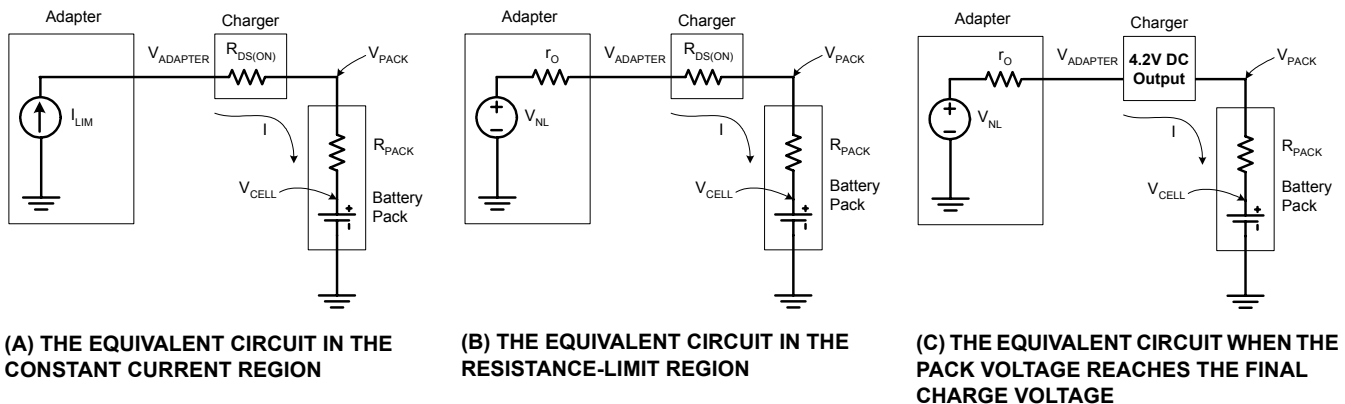

FIGURE 25. THE EQUIVALENT CIRCUIT OF THE CHARGING SYSTEM WORKING WITH CURRENT LIMITED ADAPTERS
When charging in the constant-current region, the pass element in the charger is fully turned on. The charger is equivalent to the on-resistance of the internal P-channel MOSFET. The entire charging system is equivalent to the circuit shown in Figure 25 (A). The charge current is the constant current limit  $I_{LIM}$ , and the adapter output voltage can be easily found out as,
When the above condition is true, the charger enters the constant-voltage mode simultaneously as the adapter exits the current-limit mode. The equivalent charging system is shown in Figure 25 (C). Since the charge current drops at a higher rate in the constant-voltage mode than the increase rate of the adapter voltage, the power dissipation decreases as the charge current decreases. Therefore, the worst case thermal dissipation occurs in the constant-current charge mode. Figure 26 (A) shows the I-V curves of the adapter output, the battery pack voltage and the cell voltage during the charge. The 5.9V no-load voltage is just an example value higher than the full-load voltage. The cell voltage 4.05V uses the assumption that the pack resistance is 200m $\Omega$ . Figure 27 (A) illustrates the adapter voltage, battery pack voltage, the charge current and the power dissipation in the charger respectively in the time domain.
is shown in Figure 25(B). Eventually, the battery pack voltage will reach 4.2V (or 4.1V) because the adapter no-load voltage is higher than 4.2V (or 4.1V), then Figure 25(C) becomes the equivalent circuit until charging ends. In this case, the worst-case thermal dissipation also occurs in the constant-current charge mode. Figure 26 (B) shows the I-V curves of the adapter output, the battery pack voltage and the cell voltage for the case  $V_{FL} = 4V$ . In the case, the full-load voltage is lower than the final charge voltage (4.2V), but the charger is still able to fully charge the battery as long as the no-load voltage is above 4.2V. Figure 27 (B) illustrates the adapter voltage, battery pack voltage, the charge current and the power dissipation in the charger respectively in the time domain.